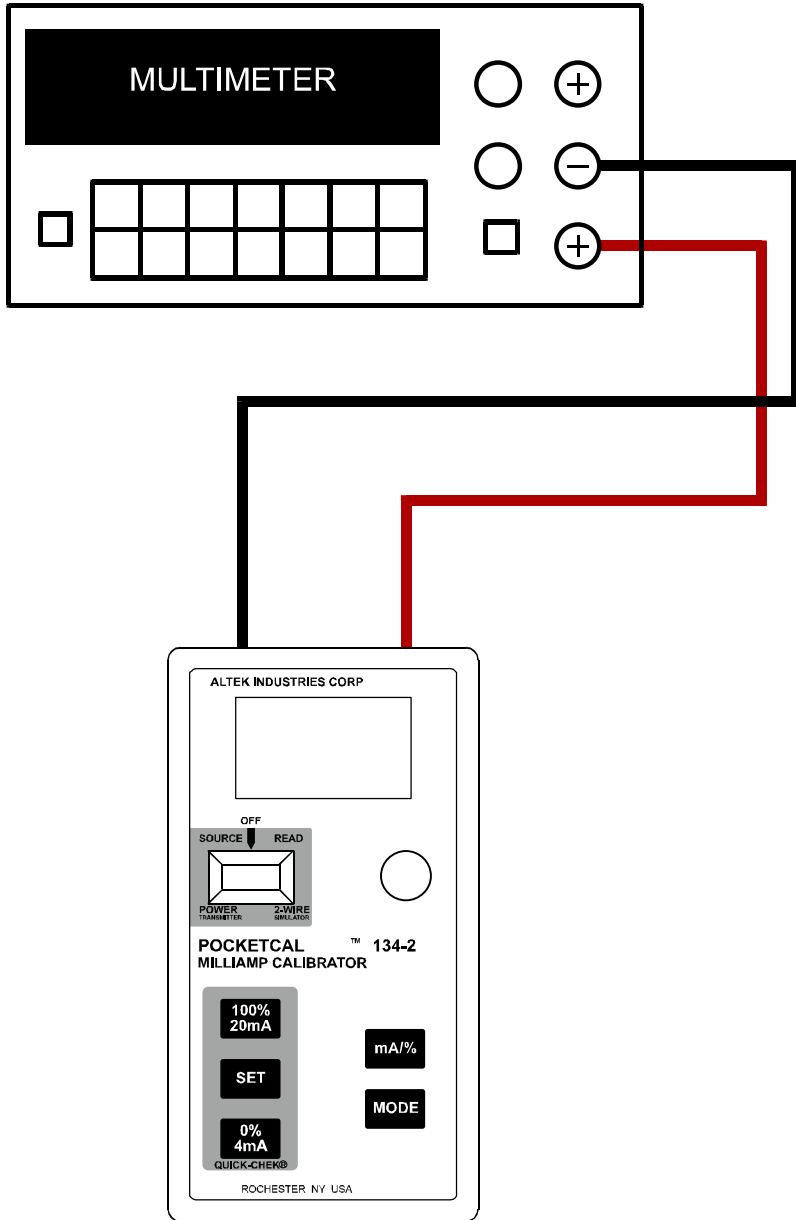

Figure 3
- Connect the UUT to the DMM as shown in Figure 3.